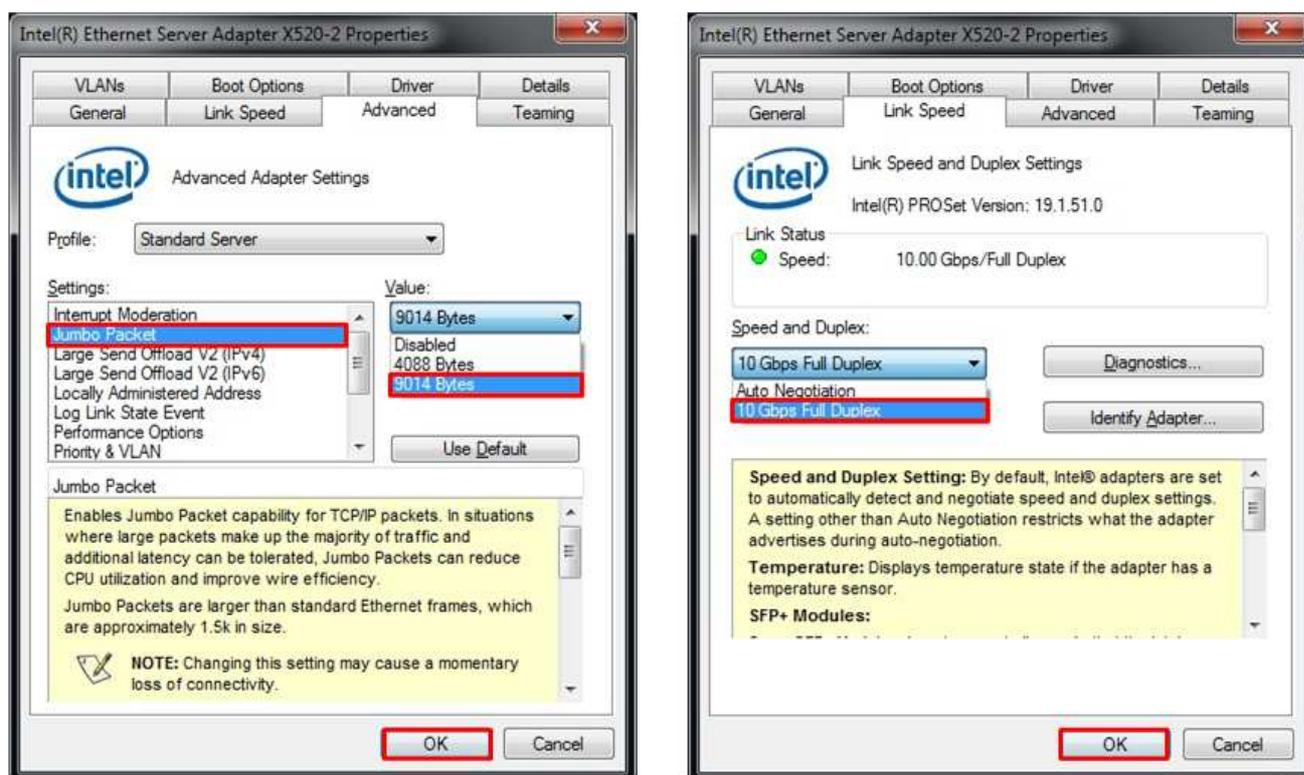

Figure 6 Link speed and Jumbo frame setup
- On Advanced Tab, select “Jumbo Packet” and then set Value to “9014 Bytes” for Jumbo Frame support or set value to “Disabled” for non-Jumbo Frame support, as shown in left window of Figure 6.
- On Link Speed, select “10 Gbps Full Duplex” for running 10-Gigabit transfer test, as shown in right window of Figure 6.